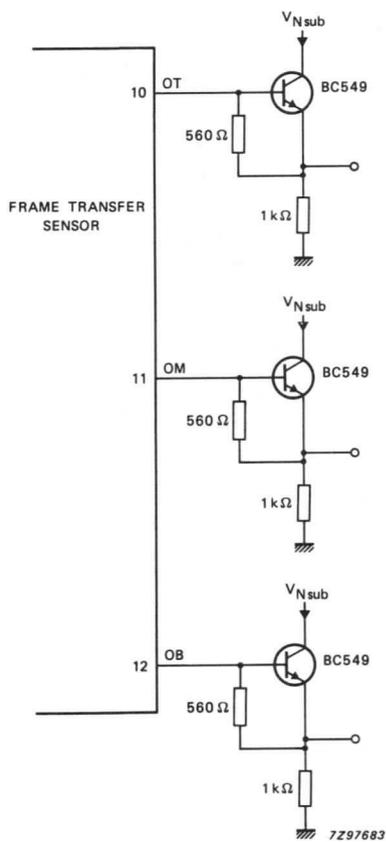

Fig. 5 Output buffer for measurements.
3. Measured with output buffer. See Fig. 5.
1. Measured with output buffer. See Fig. 5.